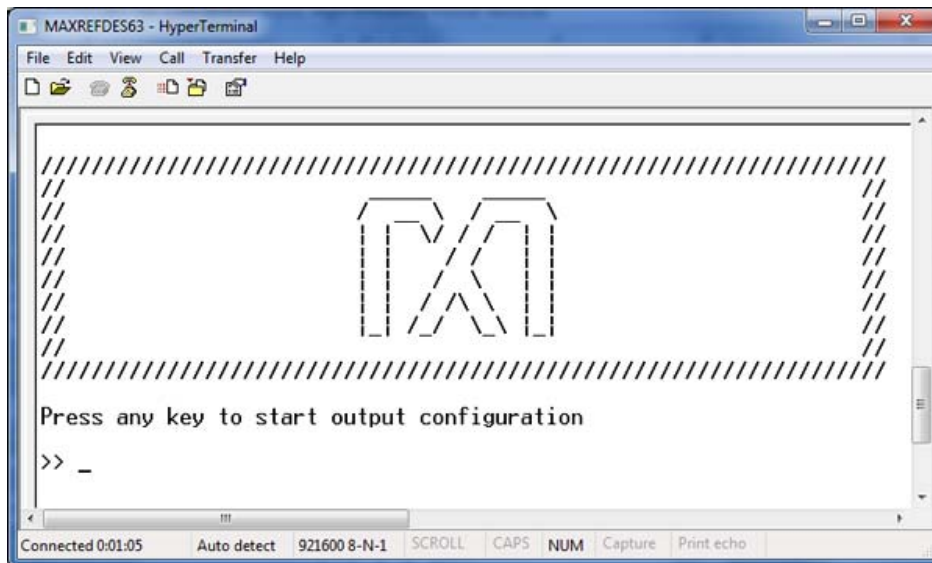

Figure 3. Terminal program main menu.
7. The MAXREFDES63# software will display a menu (**Figure 3**)